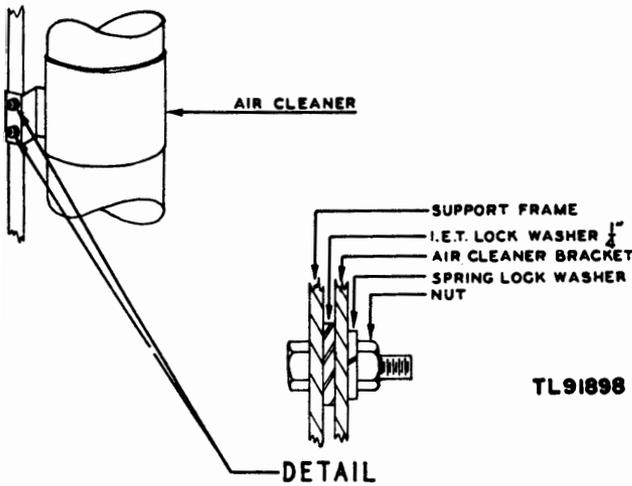

Figure 55. Air cleaner, suppression details.
(7) The air-cleaner bracket is bonded to the vertical air-cleaner support frame by two $\frac{1}{4}$ -inch internal-external tooth lockwashers. (See fig. 55.)